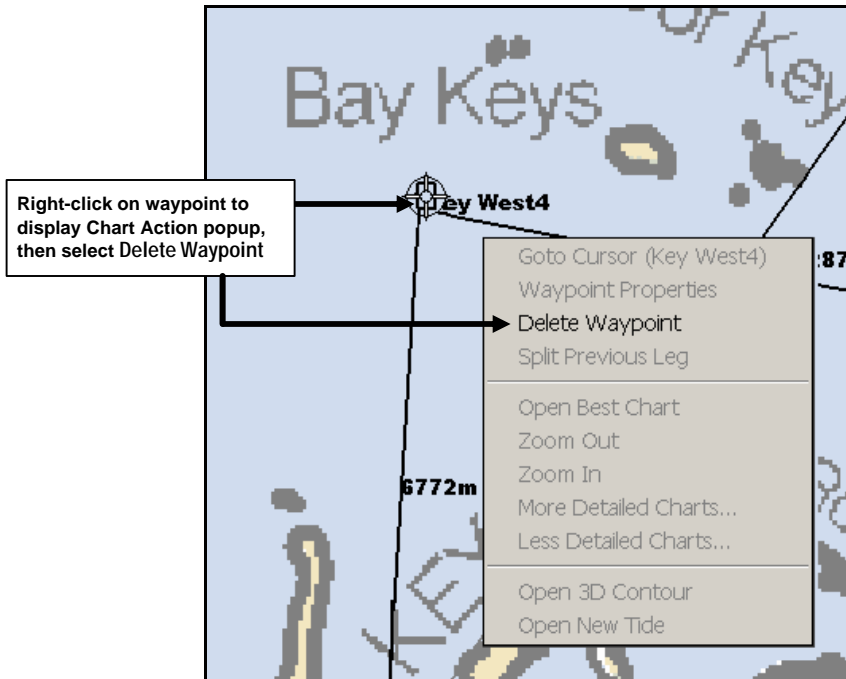

Figure 4-19. Deleting a Waypoint
1. Place the cursor over the waypoint you want to delete, then right-click to display the Chart Action popup menu (Figure 4-19).